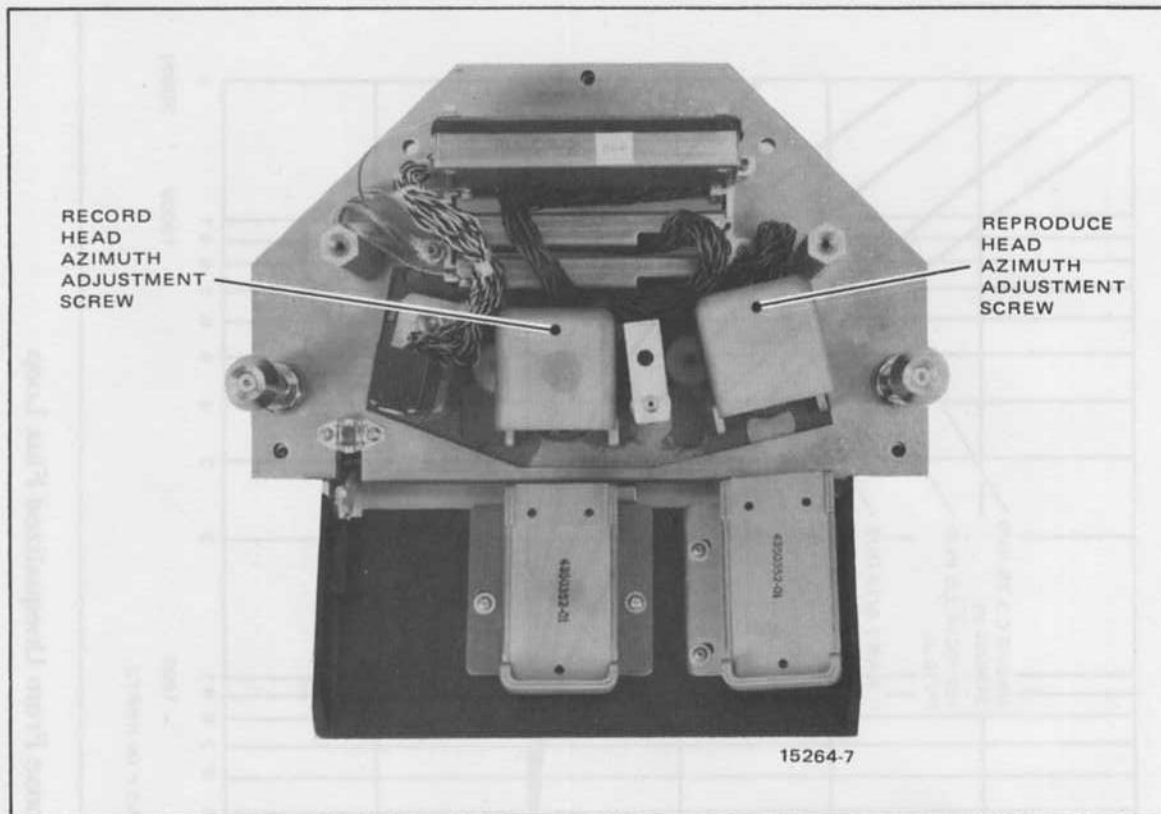

Figure 5-18. Azimuth Adjustment Screw Location
Head adjustment is required for record and reproduce head stack azimuth. Precision mounting of the record and reproduce head stack has eliminated the need for adjusting height and zenith. The azimuth adjustment is made by turning a hex screw (Figure 5-18) which causes a tapered gear to rotate underneath the head-stack precision plate. The azimuth adjustment is adjustable over a range of ± 10 minutes of arc.
STEP 8 While reproducing the highest frequency tone on the alignment tape (15 kHz at 7.5, 15, and 30 in/s), make a coarse adjustment by setting the reproduce head azimuth screw (Figure 5-18) for maximum output.